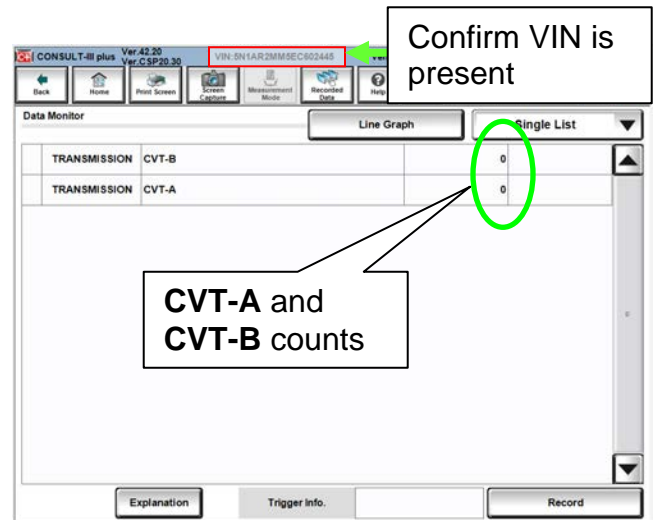

Figure 4
6. If it is confirmed that this bulletin applies, submit an order for the **SERVICE KIT** listed in the Parts Information table by sending an email with the screen print (Figure 4) from Step 5 to:
IMPORTANT: Please make sure the VIN number is clearly visible at the top of the screen print from Step 5 (Figure 4).